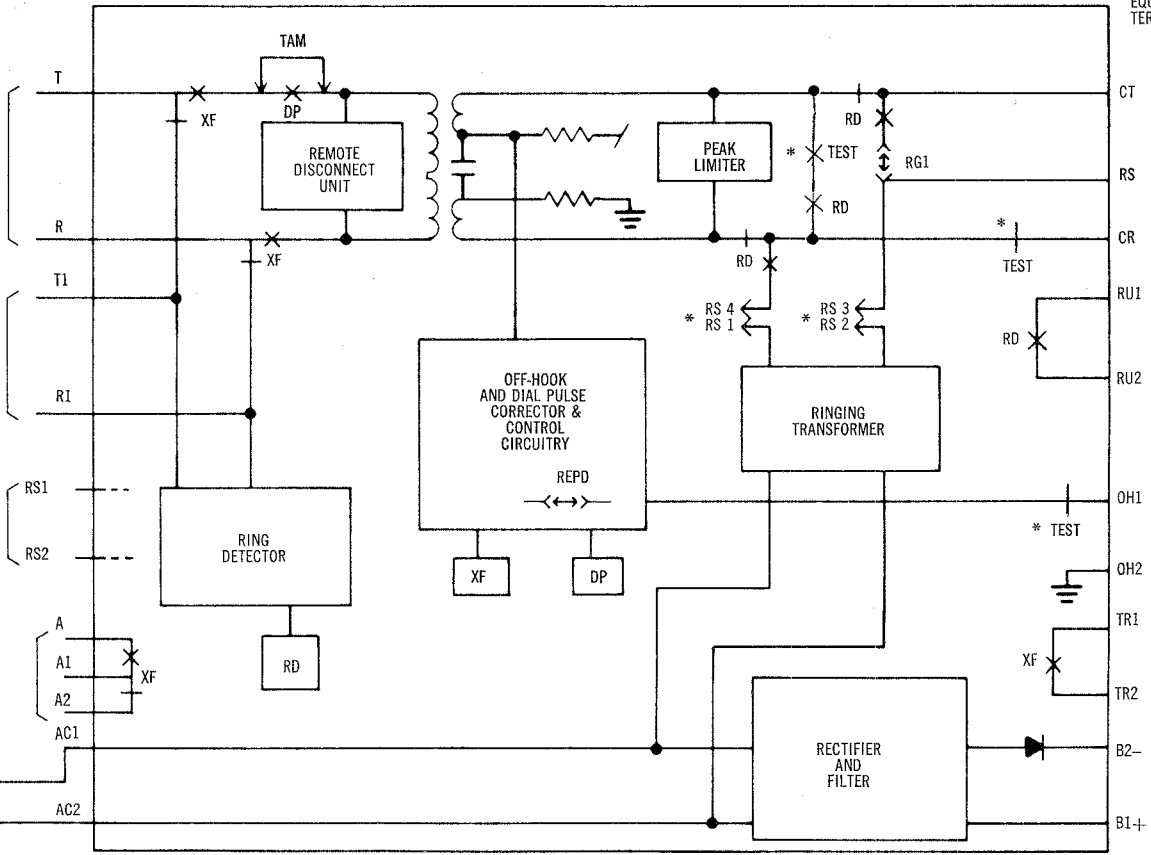

Fig. 3 — Functional Schematic of Voice Station Coupler
2.03 A functional schematic of these components is shown in Fig. 3.
2.12 The terminal block for the connection of the telephone company equipment is located at the left side of the printed circuit board. The functional schematic is shown in Fig. 3 (Table B).
2.14 Answering an Incoming Call: The ring detector is activated (Fig. 3) when 20 Hz ringing is present on the line indicating an incoming call. The RD relay, part of the ring detector operates and releases in response to the ringing cycle (i.e., 2 seconds operated — 4 seconds released): The operation of relay RD causes a contact closure between terminals RU1 and RU2. It also causes 20 Hz or 60 Hz ringing voltage from the ringing transformer to be applied between terminals CR and CT or between terminals CR and RS, depending on whether or not the RG1 strap is in place (Option G).